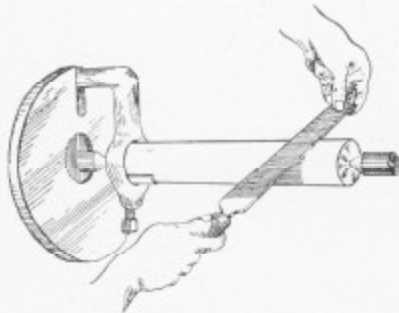

Fig. 130.—Filing in the Lathe
**Filing in the Lathe.**—In Fig. 130 the operator is filing a cylinder revolving on centers in the lathe, using a mill file. The left hand is holding the file with the thumb on top and the first two fingers underneath the end of the file. The right hand is holding the file with the thumb squarely on top of the handle and the fingers underneath. This is the proper way to hold a file for filing in the lathe or filing work in the vise.